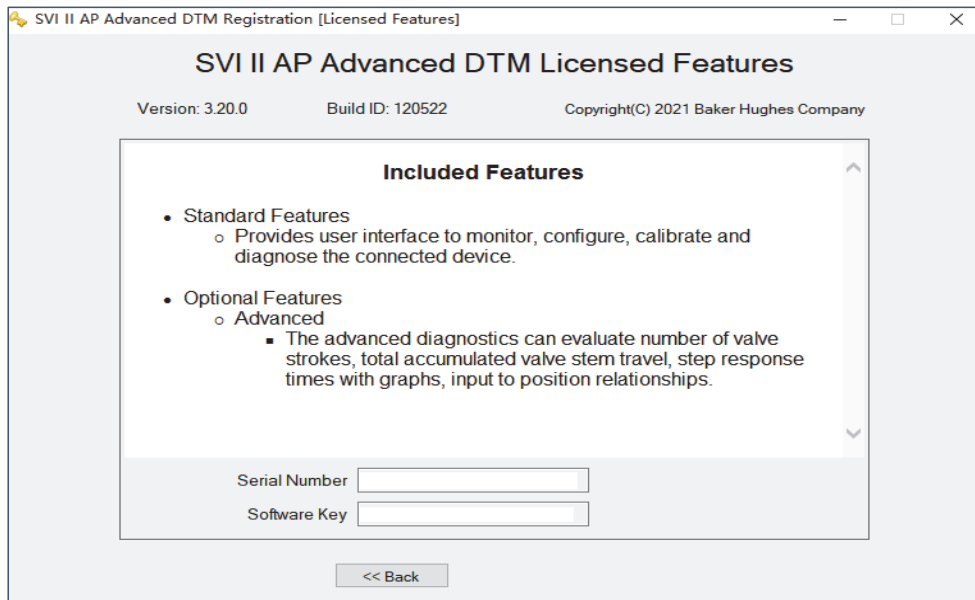

Figure 12 - Included Features
3. Click **License >>** and Figure 12 appears.